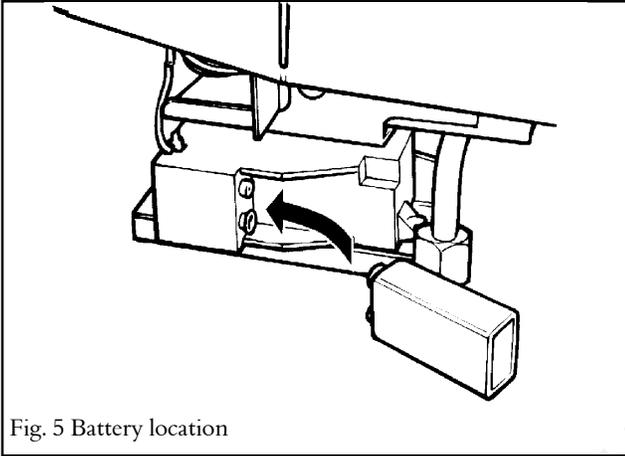

Fig. 5 Battery location
7.1.1 Fit the battery to the ignition block located below the burner tray at the left side (see figure 5).